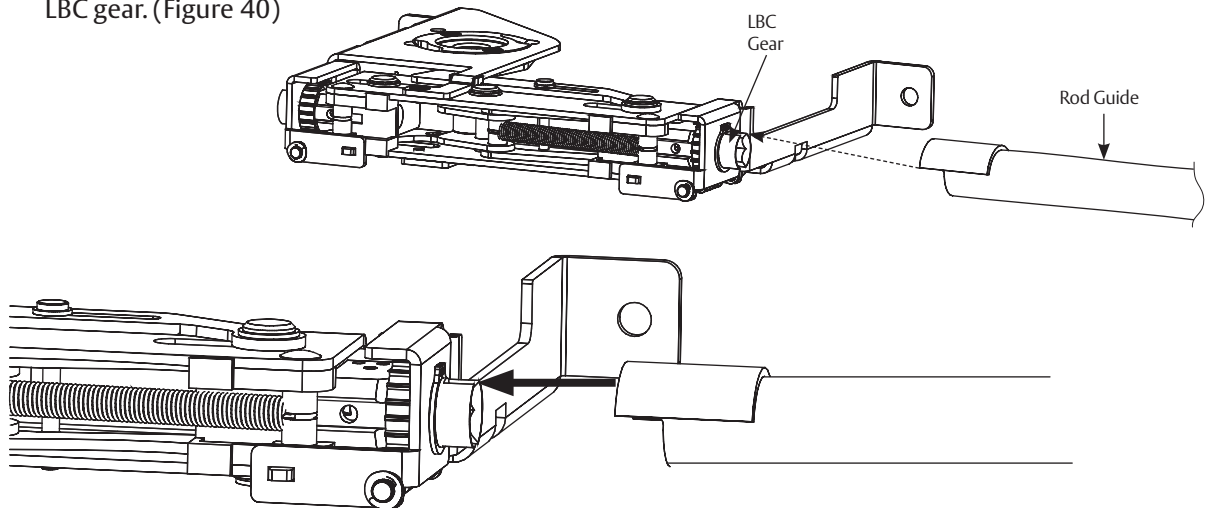

Figure 40
- When approaching the LBC, slightly elevate the rod and slide the Guide Tab on outer diameter of the LBC gear. (Figure 40)